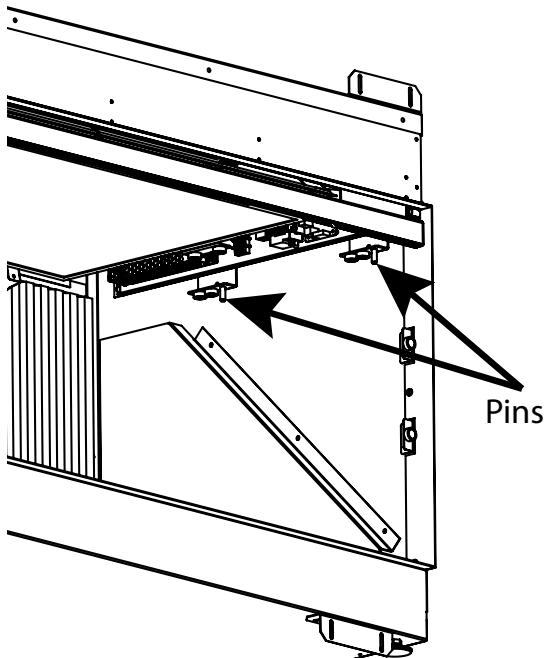

Figure 23: Ceiling Alignment Pins
1. Align the holes on the panel with the two pins pointing down near the side wall. (Figure 23)